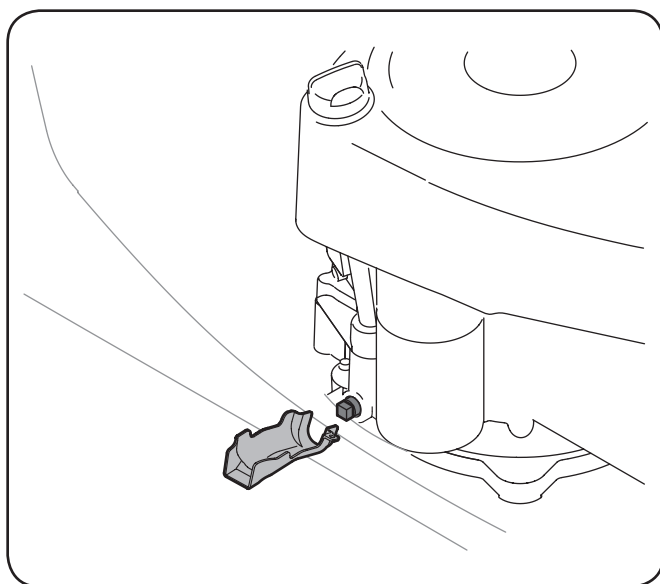

Figure 6-1
4. Snap the small end of oil drain sleeve onto the space provide around the oil drain plug. See Figure 6-1.